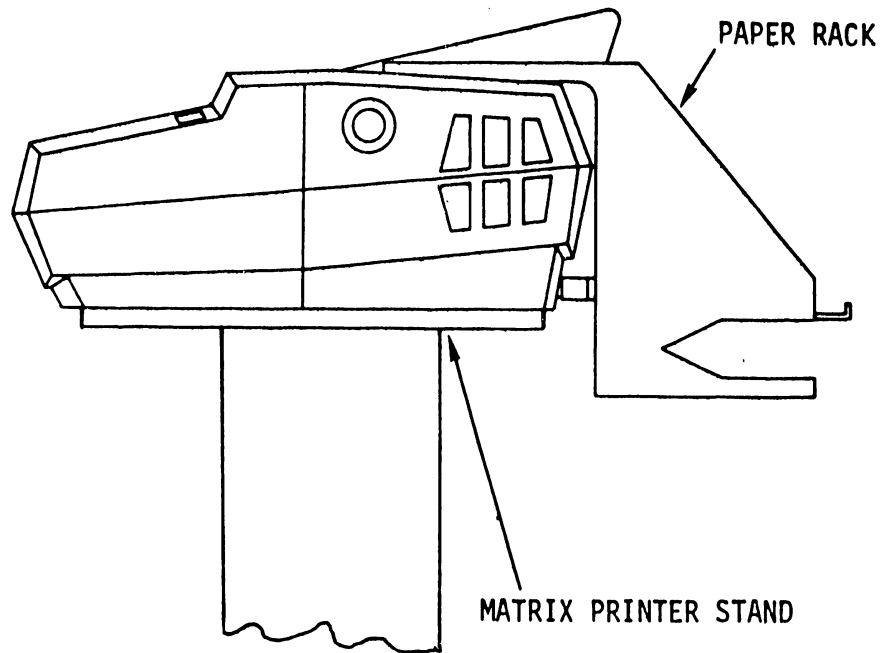

FIGURE 2-3 PRINTER WITH PAPER RACK
- 1) Place the printer near the rear of the table to allow the paper rack to extend over the edge as shown in Figure 2-3.